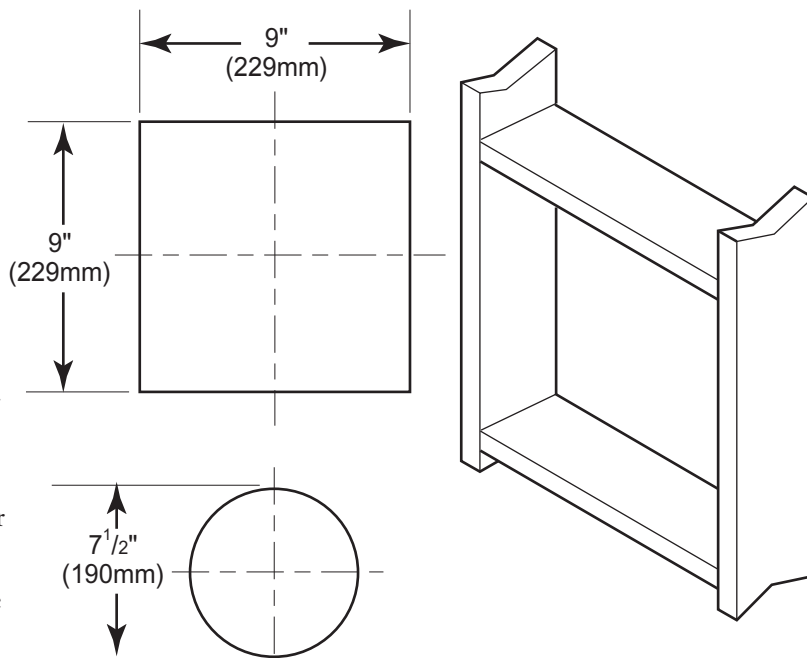

Figure 12 - Vent Opening Requirements
Combustible Walls: Cut a 9 "H x 9 " W (229mm x 229 mm) hole through the exterior wall and frame as shown. See Figure 12.
Cut a 9"x9" (229mm X 229mm) rectangle hole through combustible exterior wall (7½" [190mm] diameter hole if noncombustible). Frame as necessary. Allow ¼" minimum rise per foot. See Figure 12.
1. Establish vent hole through the wall. *See Figure 12, page 17.*